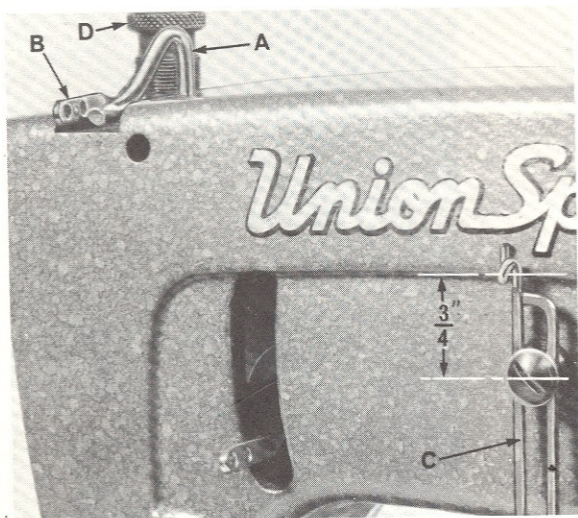

Fig. 13
Set the needle thread take-up wire (A, Fig. 13), located adjacent to the needle bar thread eyelet (B), so that its upper surface is even with the top of the holes in the needle bar thread eyelet when the needle bar has completed its downward stroke. Lower this setting for a smaller needle thread loop, and raise it for a larger loop. Set the needle thread frame eyelet (C) so that the eyelet hole is $\frac{3}{4}$ inch above the attaching screw (Fig. 13).
Regulate the presser spring regulating screw (D, Fig. 13) so that it exerts only enough pressure on the presser foot to feed the work uniformly when a slight tension is placed on the fabric. This is the knurled screw, located directly behind the needle bar in the head of the machine. Turning it clockwise increases the pressure, counter-clockwise acts the reverse.